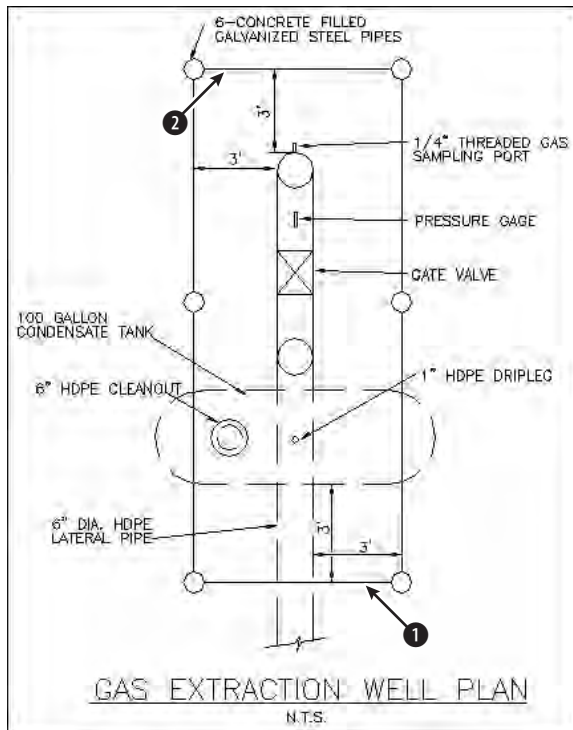

Figure 9-3: The gas-extraction well schematic
2. Save the file as `ab09-01.dwg` in your *AutoCAD Bible* folder. This drawing is a schematic of a gas extraction well, shown in Figure 9-3.
3. To erase the line at point ❶ of Figure 9-3, move the mouse until the pickbox at the intersection of the crosshairs is anywhere over the line and click. Notice that the line is dashed and displays grips.
6. At the `Select objects:` prompt, pick the line at point ❷ in Figure 9-3.